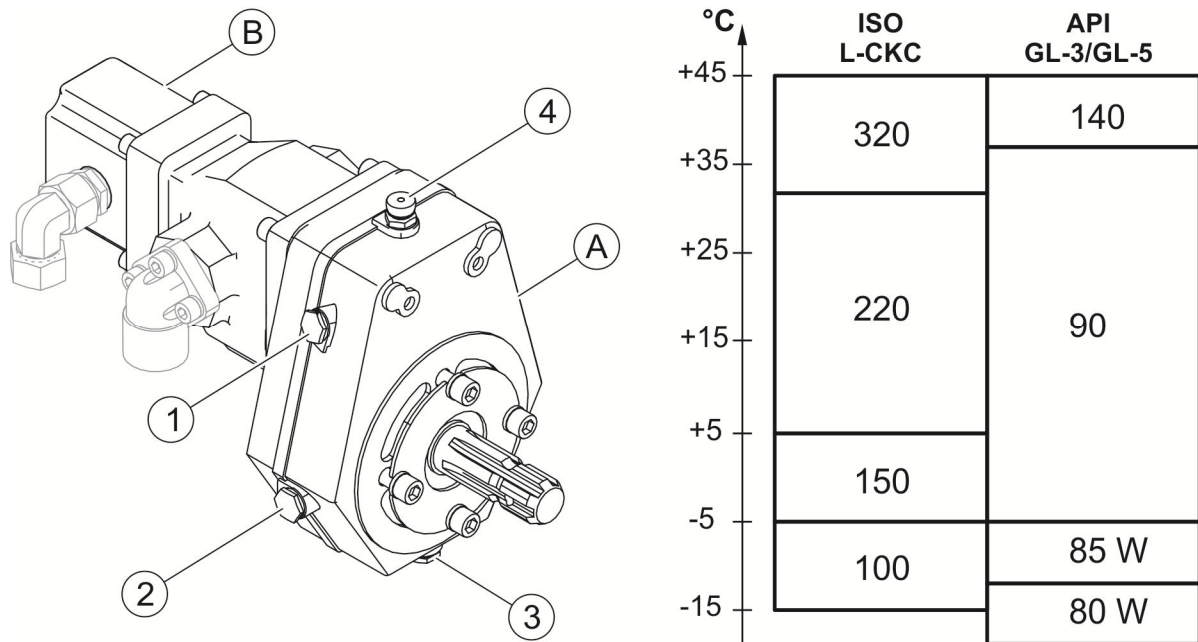

FIGURE 5.2 Multiplier gear box with hydraulic pump and viscosity classification of gear oils depending on the ambient temperature.
There must be no oil leaks from the multiplier gear box (A) and pumps (B) (FIGURE 5.2). These can be stopped by tightening the mounting bolts or replacing the seals. If needed, remove the oil filler cap (1) or air vent (4) and add gear oil to sight-glass level (2). To change the oil, unscrew the drain cap (3) and drain the oil into a prepared vessel. Then pour oil into the multiplier gear box through the filler plug (1) or air vent (4) to the level of the sight-glass (2).
ISO L-CKC or API GL-3/GL-5 quality grade gear oil may be used. The viscosity grade of the gear oil is selected depending on the ambient temperature (FIGURE 5.2).